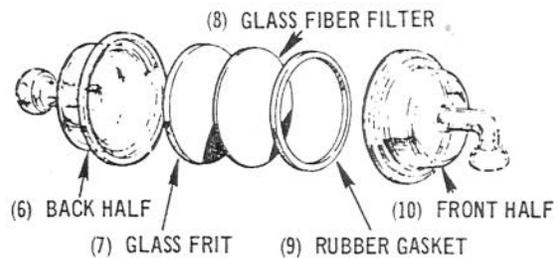

Figure 16. Glass filter holder assembly.
If the glass frit (7), shown in Figure 16, is dirty, place it in boiling, concentrated HCl for 0.5 hour. Rinse with distilled, deionized water, and then acetone; air dry. If the frit still does not appear clean, boil for 2 hours in concentrated  $H_2SO_4$  plus a few drops of sodium or potassium nitrate. Rinse well with distilled,
deionized water, and then acetone; air dry. This procedure should also be followed with new frits. The filter-holder assembly is shown in Figure 16.